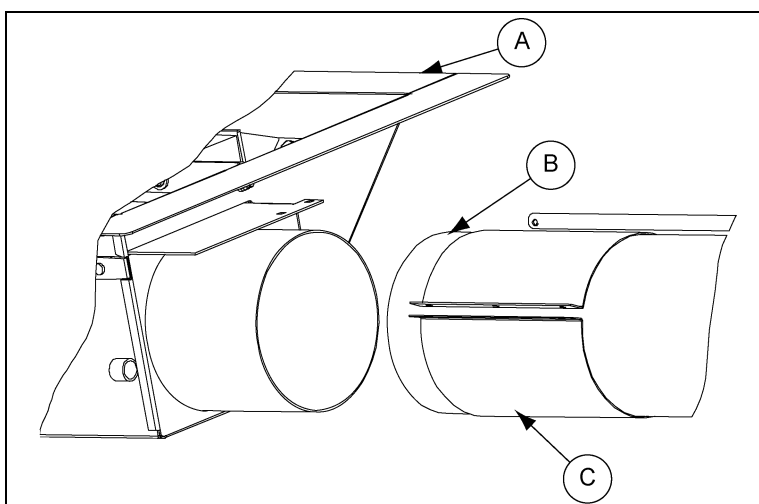

Figure 4F
4. Place the 12" connecting band (C) onto the end of the unload tube (B) assembly closest to the centerwell (A). (See Figure 4F.)